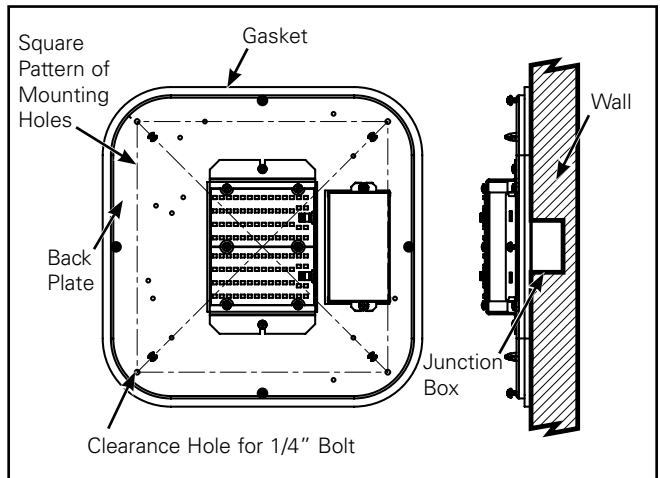

Figure 4. Flat Unit Installation
3. Center mounting plate on flat smooth ceiling or wall over junction box. Use mounting plate as a template to layout fastener locations. (Figure 4.)